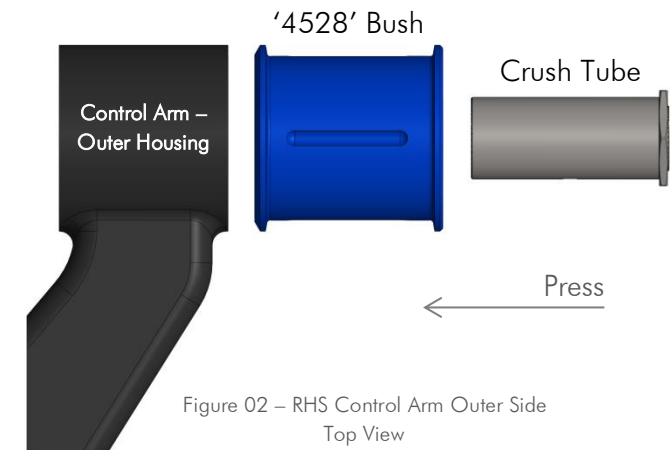

Figure 02 – RHS Control Arm Outer Side Top View
- Push the new '4528' bushes into the outer housing according to the Figure 02;